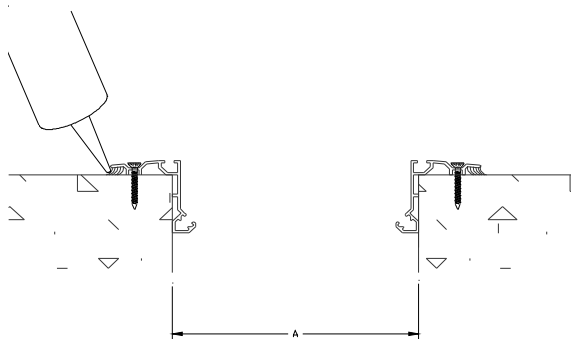

Figure 5
**STEP 10.** Select the sealant, by others. Apply a continuous bead of sealant to the gap between the end of each base member and the substrate, see Figure 5.